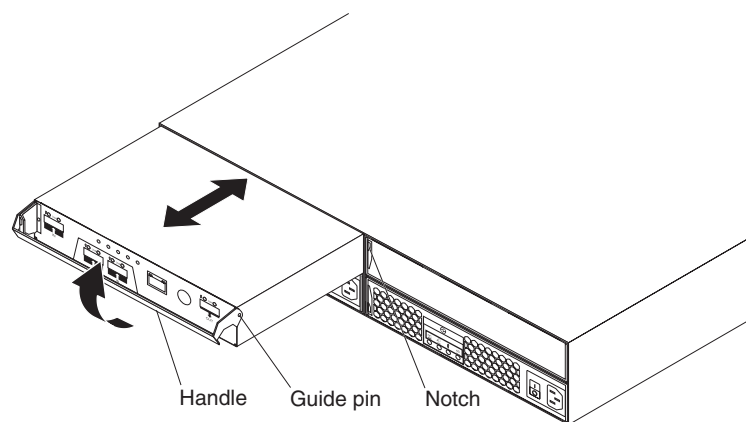

Figure 40. Removing and replacing a controller
- b. Slowly pull the handle away from the chassis to remove the controller from the bay, as shown in Figure 40.
- b. Make sure that the guide pins on the side of the controller fit into the notches on the DS3200 chassis. See Figure 40 on page 67.